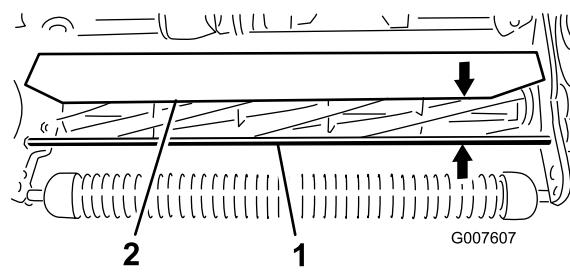

Figure 45
1. Measure the distance from top of the front support rod to the front lip of the shield at each end of the cutting unit (Figure 45).